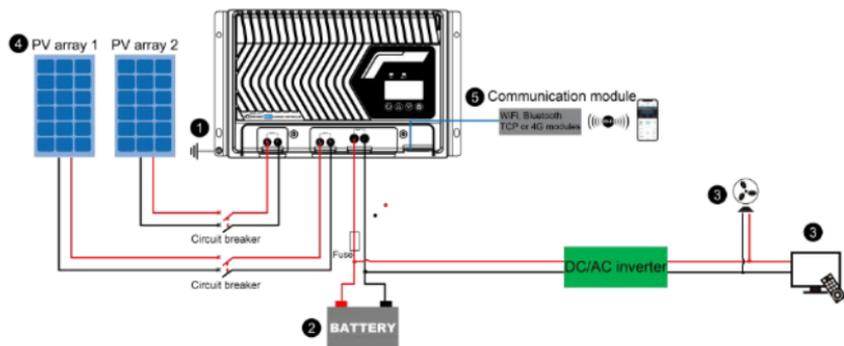

Figure 2-4: Wiring diagram
Connect the controller in the sequence of "① Ground > ② Battery > ③ Load > ④ PV array > ⑤ Communication modules", and disconnect the controller wiring in the reverse order of Figure 2-4.